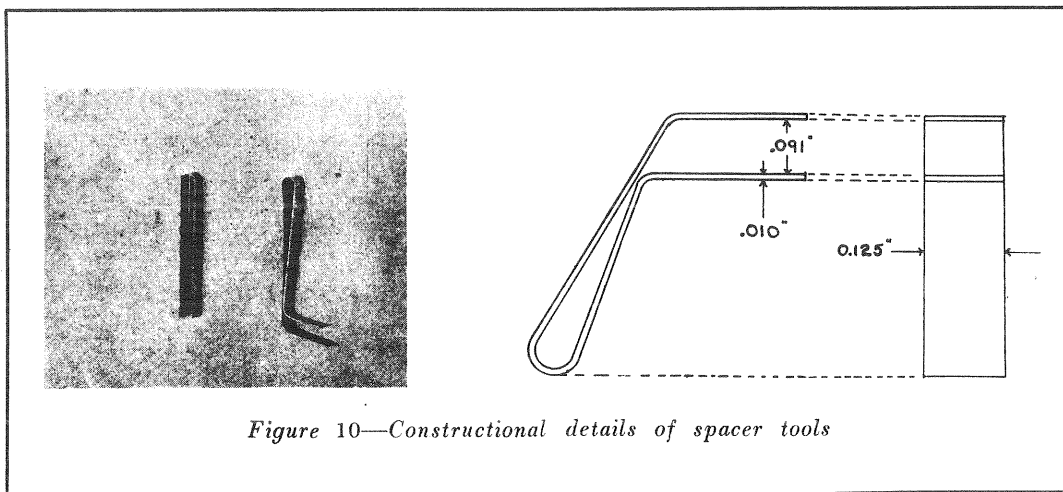
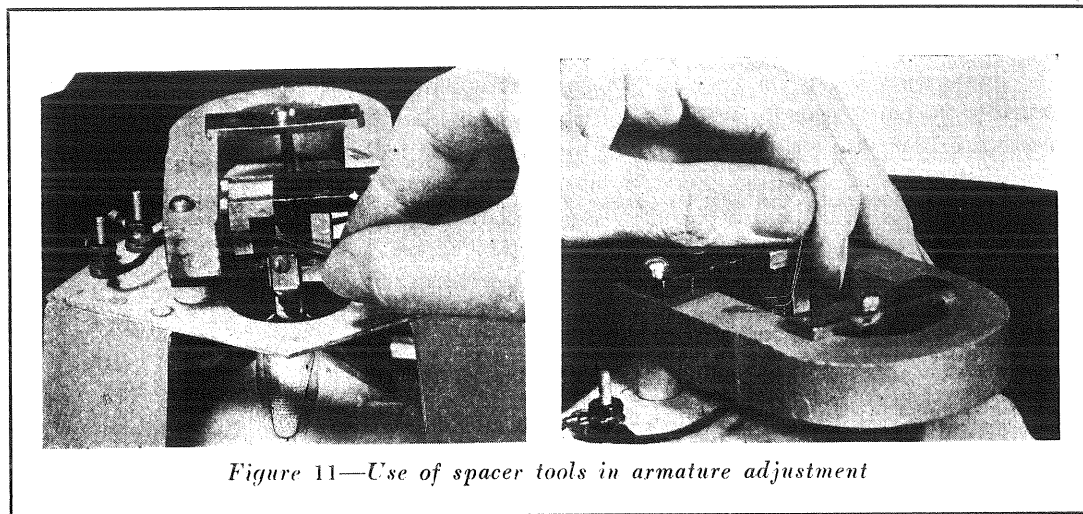

Figure 10—Constructional details of spacer tools
Figure 11—Use of spacer tools in armature adjustment
armature correctly it will be first necessary to make a set of spacer tools (Figure 10). These are made of $\frac{1}{8}$ " stock phosphor bronze .010" thick and bent to give two surfaces .091" apart. Two of these tools are necessary. After the two screws are loosened at each end of the armature these tools are inserted at each end between the armature and pole pieces (Figure 11). The screws are then tightened with the spacer tools in place. This completes the adjustment.
5. Insert the spacer tools in position as shown in Figure 11 and tighten the armature screws. It may be necessary to do this several times before the armature is correctly adjusted.